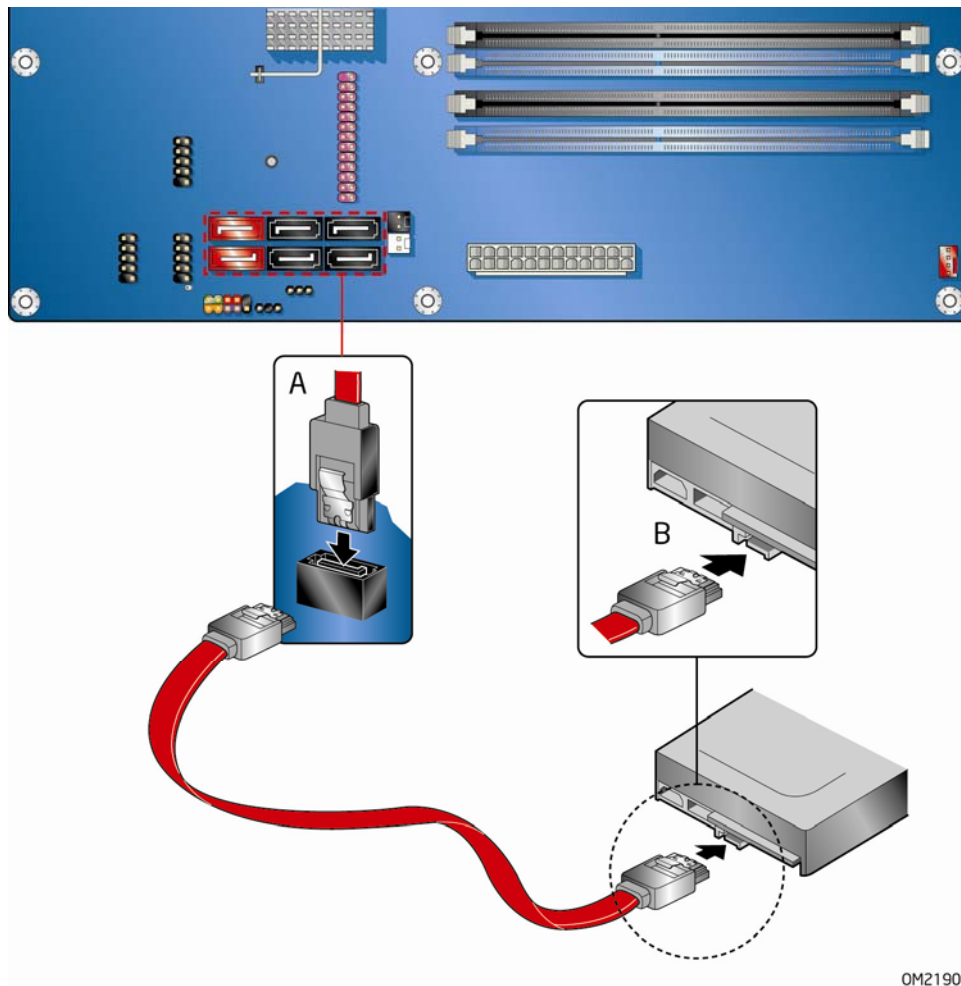

Figure 19. Connecting a Serial ATA Cable
2. Attach one end of the SATA cable to one of the SATA connectors on the board (Figure 19, A) and attach the other end of the cable to the SATA drive (Figure 19, B).